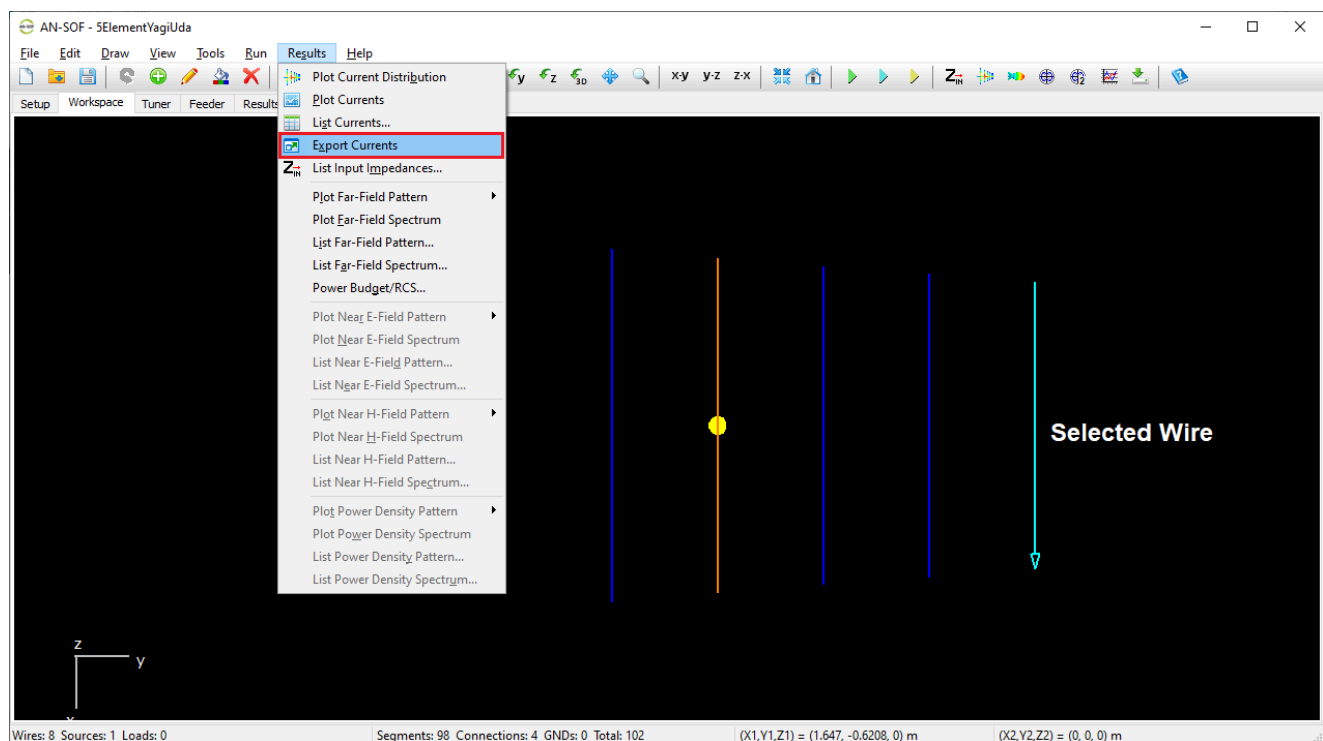

Fig. 1: Export Currents option in the Results menu, enabled when an individual wire is selected.
3. Navigate to the **Results menu > Export Currents** in the main menu (see Fig. 1).